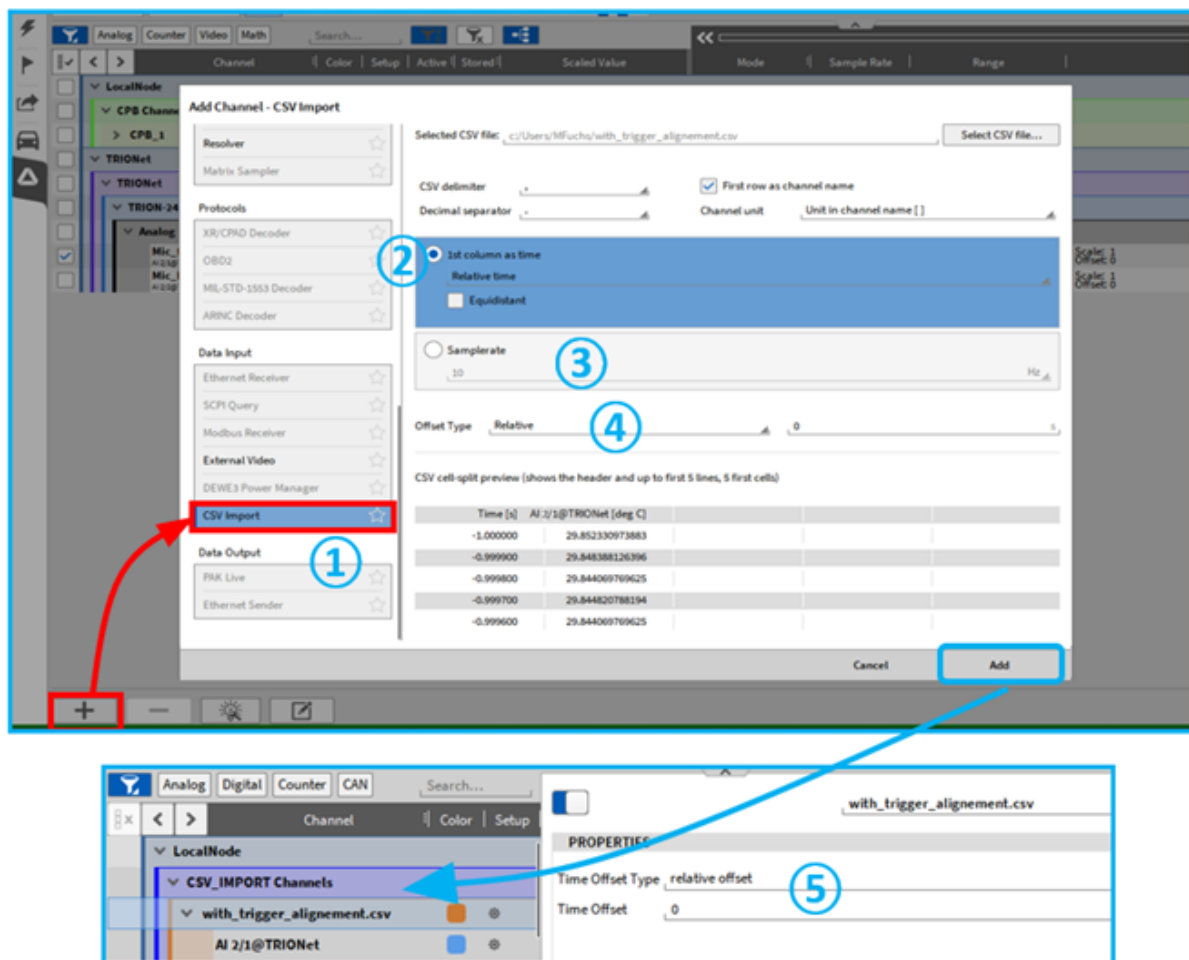

Fig. 7.174: CSV import
In OXYGEN Viewer it is possible to import CSV data as a channel. This is only available in PLAY mode (see ① in Fig. 7.174). The first column can be interpreted as relative or absolute time (see ② in Fig. 7.174). In case no time is included a synchronous sample rate can be defined (see ③ in Fig. 7.174). An optional time offset can be defined before adding the channel (see ④ in Fig. 7.174) or subsequently in the properties (see ⑤ in Fig. 7.174). The imported channel can be found in the group CSV_IMPORT Channels in the channel list.